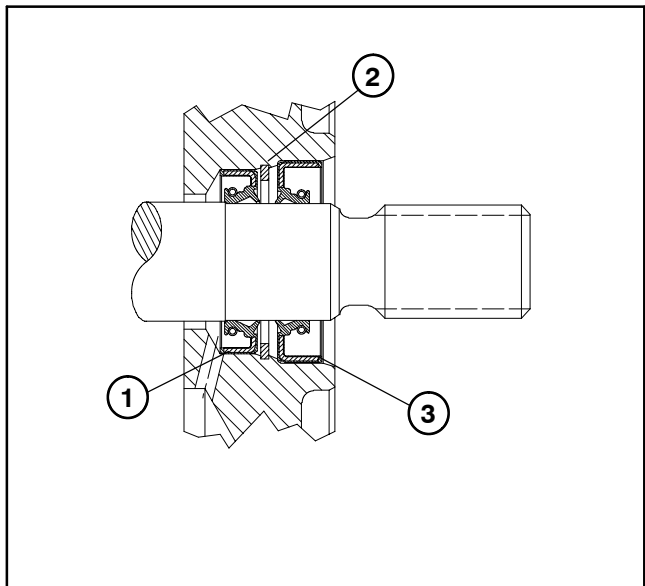

Figure 81
2. Install inner shaft seal into front flange with seal lip facing in (Fig. 81). Seal should be pressed into place until it reaches the bottom of the bore.
4. Install outer shaft seal in front flange with seal lip facing out (Fig. 81). Seal should be pressed into place until it reaches the bottom of the bore.